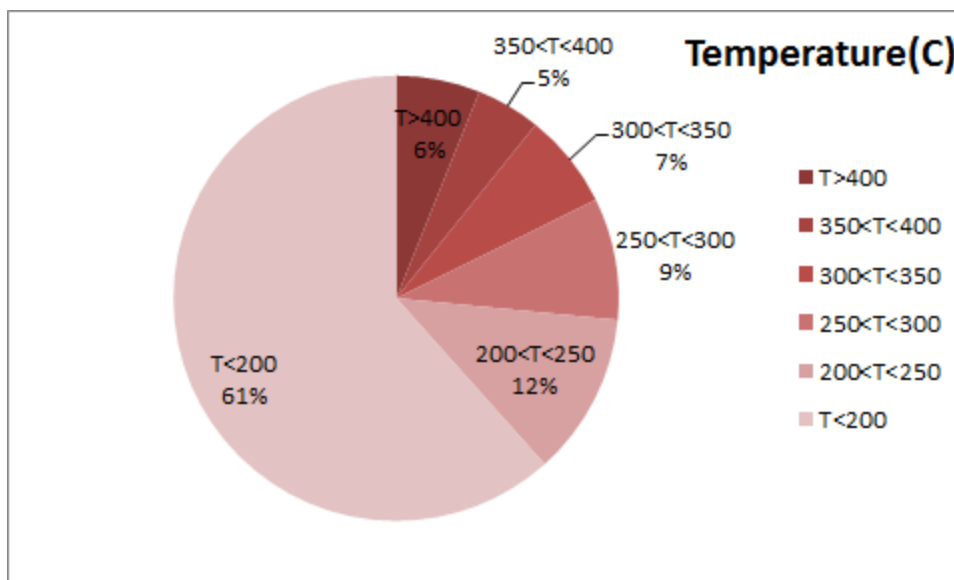

Figure 2-Temperature¹ distribution over the working hours
- Figure 2 displays flow temperature before the DPF. It can be obviously observed that only 6% of total working time temperature is above 400 °C and 11% above 350°C. It is worth-mentioning this low temperature distribution was result of high idle working during this period.